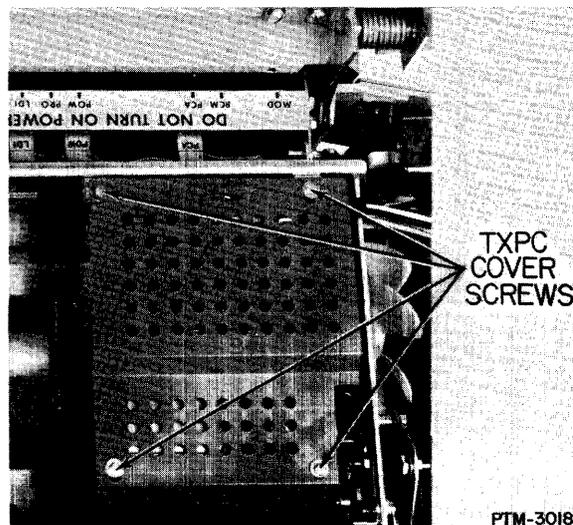

Figure 5-10. TXPC Cover Mounting.
3. Remove the four screws on the TXPC cover and then remove the cover (see Figure 5-10).
1. Remove the four screws and lift off the protecting cover over the TXPC board (see Figure 5-10).